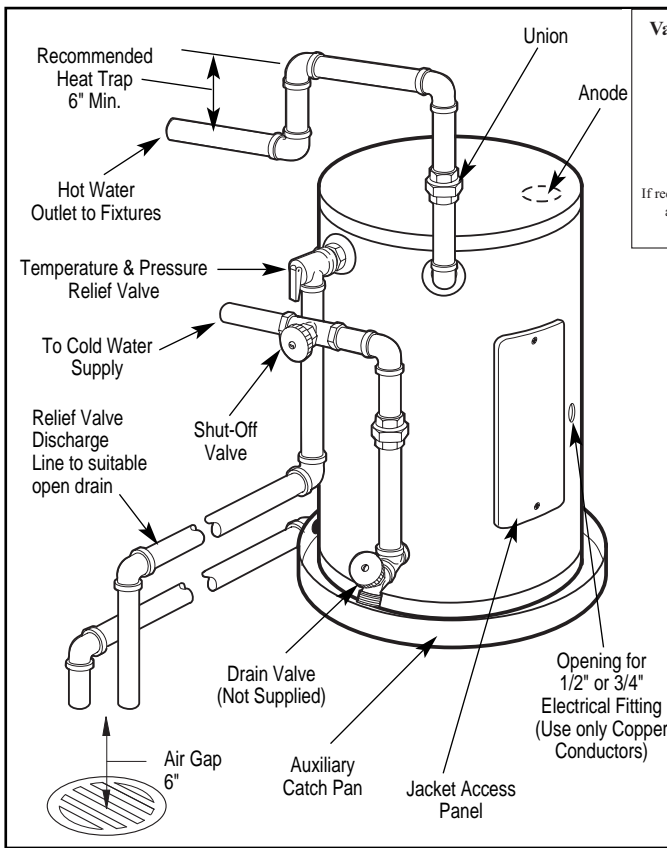
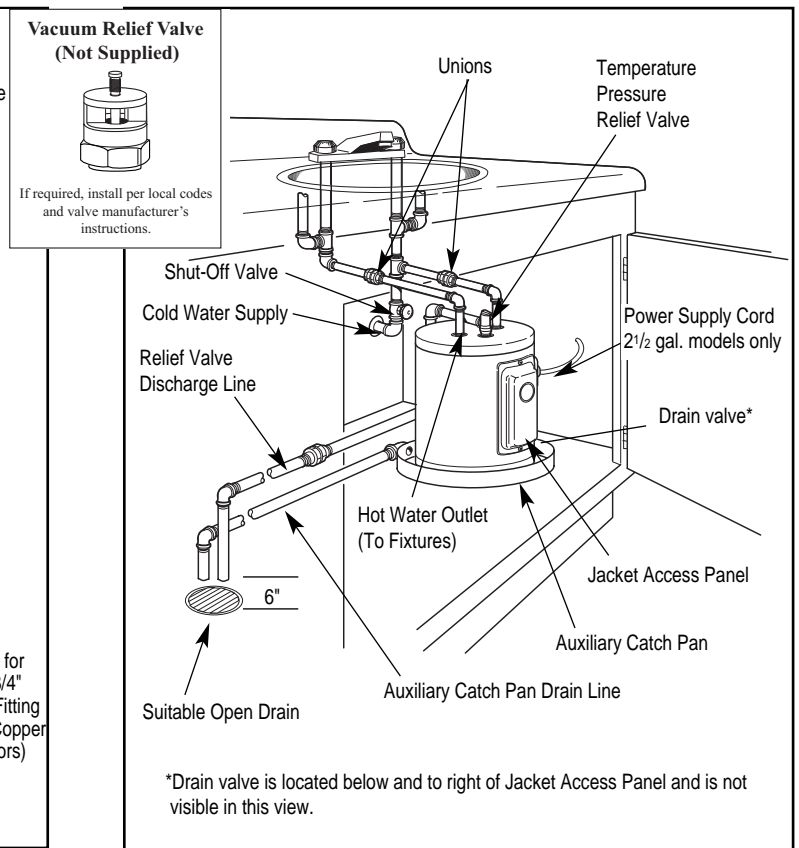

Figure 2. — Typical Side Connect Installation
Figure 3. — Typical Under Counter Top Connect Installation
- 3. WATER SUPPLY CONNECTIONS** — Refer to Fig. 2 or 3 for suggested typical installation. The installation of unions or flexible copper connectors on the water connections is recommended so that the water heater may be easily disconnected for servicing if necessary. Connect cold water supply line to 3/4" pipe connection near the bottom of water heater. (Refer to Figure 2.) Install a shut-off valve and a drain valve (not supplied) in the cold water line near the water heater (Refer to Fig. 2.). Connect hot water line to 3/4" pipe connection marked HOT on the side near the top of the water heater. On the some models, the hot and cold water connections are 1/2" pipe connections and are located on top of the heater. (Refer to Figure 3.) A drain valve is supplied on these models. Local codes may require an Anti-Syphon device on the water inlet of a side connect water heater.
4. RELIEF VALVE — A new combination pressure and temperature relief valve, complying with the Standard for Relief Valves and Automatic Gas Shutoff Devices for Hot Water Supply Systems, ANSI Z21.22, must be installed in the opening provided and marked for the purpose on the water heater. (Refer to Fig. 2 or 3.) No valve of any type should be installed between the relief valve and the tank. Local codes shall govern the installation of relief valves.